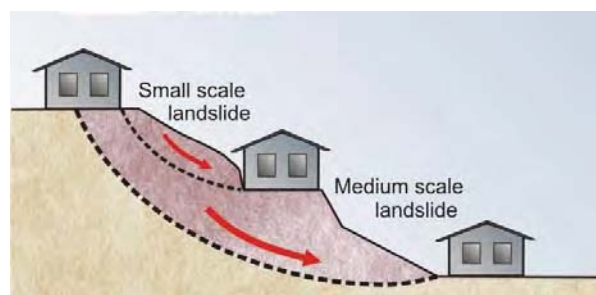

Figure 1
**Rotational or circular slip failures (Figure 1)** - can occur on moderate to very steep soil and weathered rock slopes (Table 1). The sliding surface of the moving mass tends to be deep seated. Tension cracks may open at the top of the slope and bulging may occur at the toe. The ground may move in discrete "steps" separated by long periods without movement. More rapid movement may occur after heavy rain.